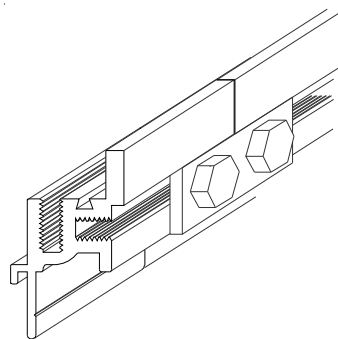

Figure 11
STEP 5. Attach the splice bar to the to the frame sections using the fasteners (part no. H1412S) provided by the factory (see Figure 11).